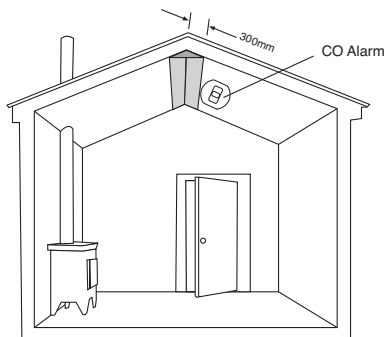

Figure 2
- In rooms with sloped ceilings, the CO Alarm should be located at the high side of the room (see figure 2).